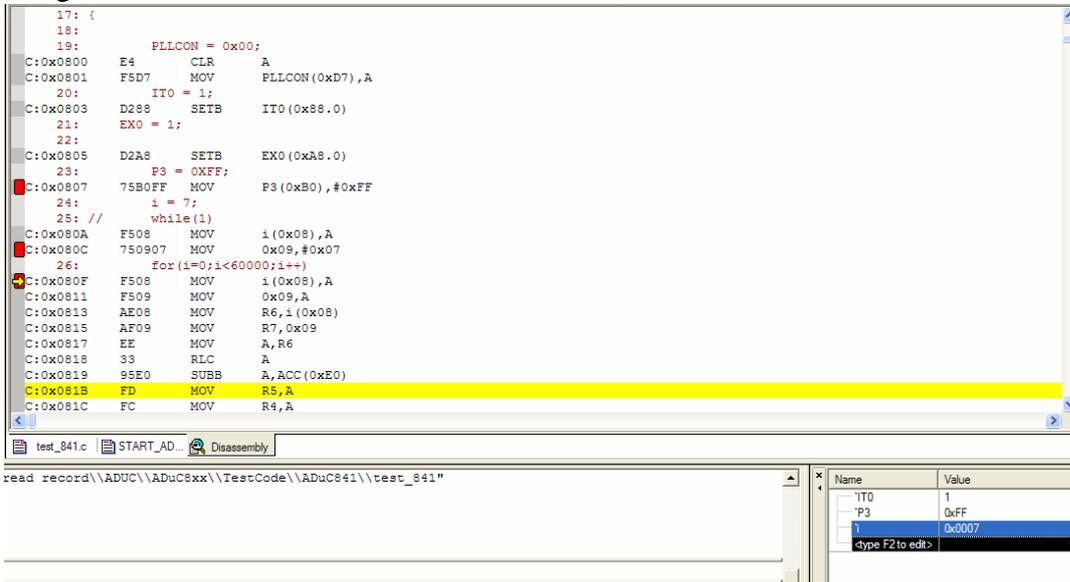

Figure 9
6. In the Figure 9, the yellow arrow denotes the current place of program. You can observe the change of the variable's value. Here the ITO is 1, the variable "i" is 7.